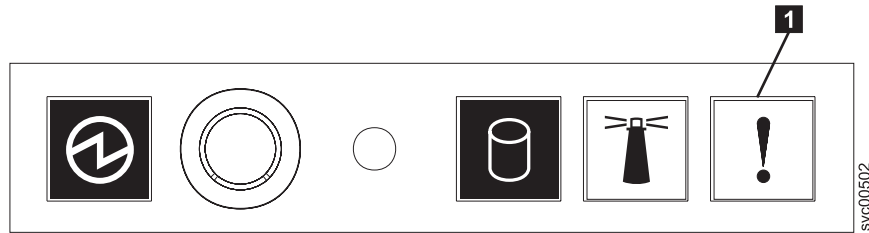

Figure 98. SAN Volume Controller 2145-8A4 operator-information panel
1. Is the Error LED, shown in Figure 98, on the SAN Volume Controller 2145-8A4 operator-information panel on or flashing?